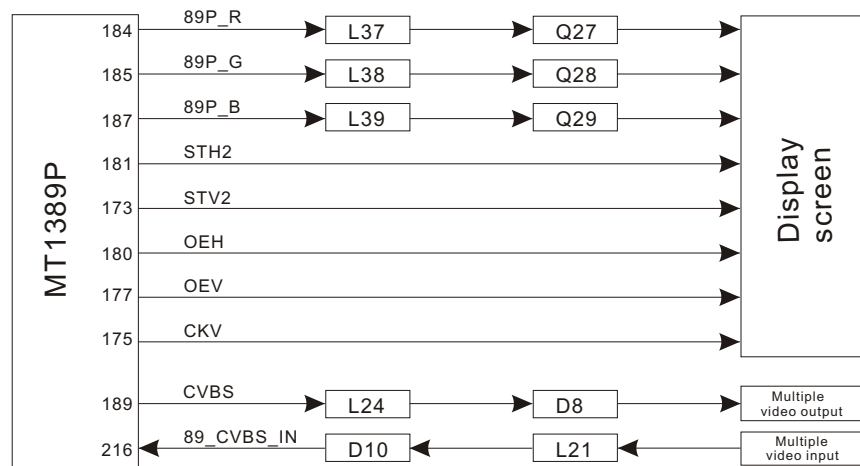

Figure 3.2.3.1 Block diagram of Video circuit
1.MT1389P built-in Video decoder is able to output analog/digital audio signal. The amplified signal can output to terminal . Block diagram of Video circuit is shown in figure 3.2.3.1: